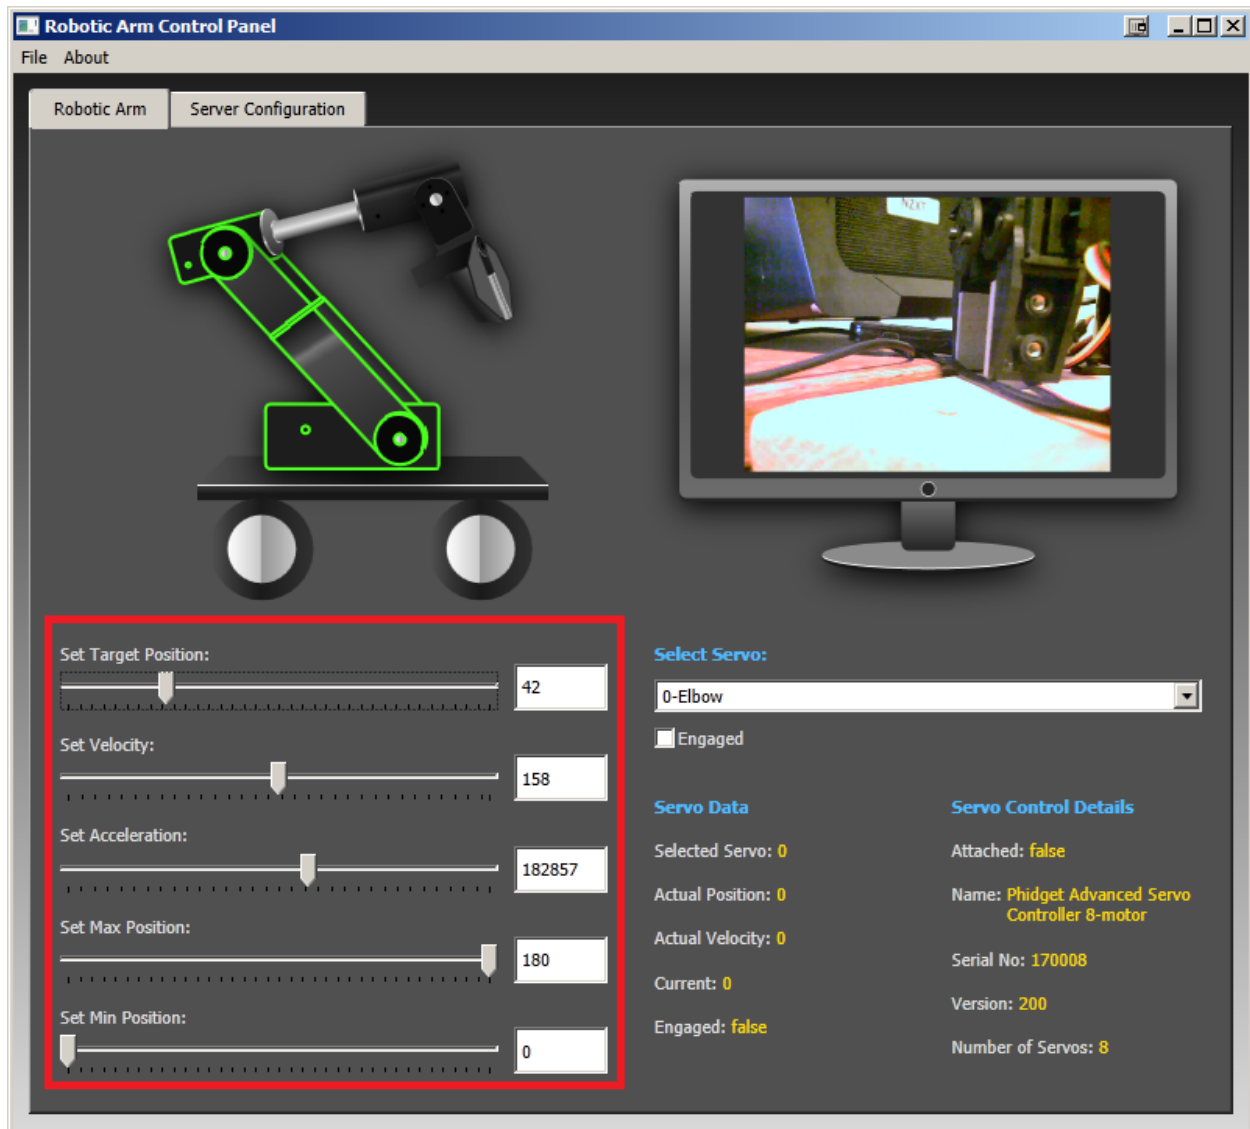

Figure 32
4. Change the property of the selected servo, such as its position, by moving the corresponding slider (Figure 32).